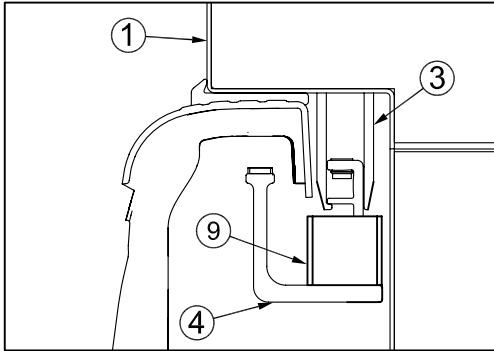

Fig. 13
15. Assemble J-hooks (#4) to the receivers (#3) by sliding the lower horizontal support of the J-hook (#4) over the tab on the J-hook receiver (#3). (See Fig. 13)